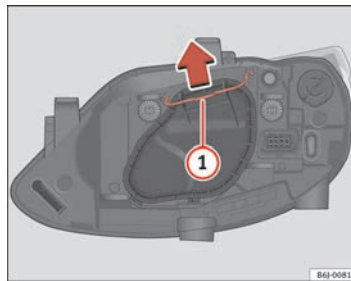

Fig. 139 Dipped beam / main beam, single light
- Remove the loop ⇒ page 213, fig. 139 ① in the direction of the arrow and remove the cover.